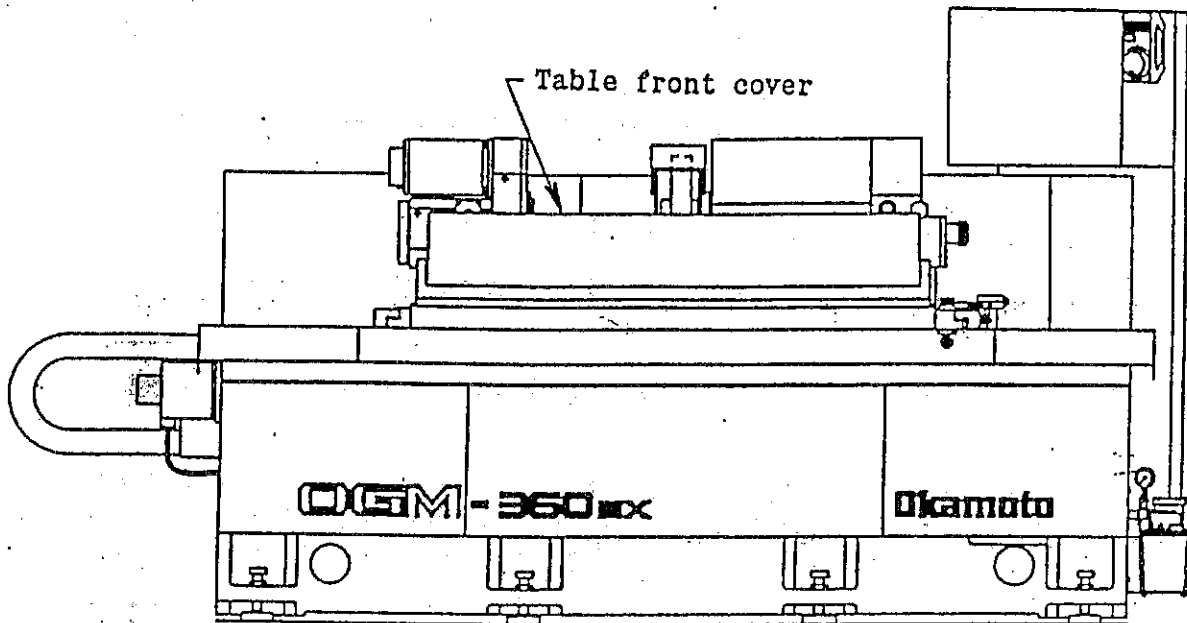

Fig. 4-10 Attaching the Panels
OGM-300 (12) Series : ▶ See Fig. 4-10